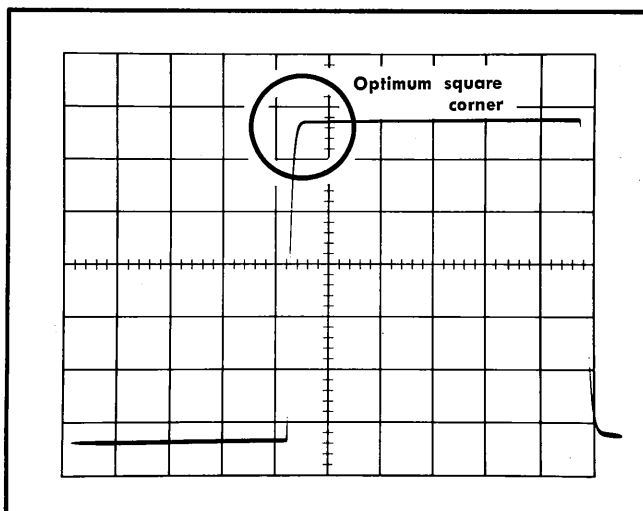

Fig. 5-18. High frequency response waveform for step 20. Sweep rate - $1 \mu\text{s}/\text{div}$; vertical sensitivity - $.02 \text{ v}/\text{div}$.
e. Adjust the 2B67 (TRIGGERING) LEVEL control as necessary to obtain a display similar to that shown in Fig. 5-18.
g. (Calibration Procedure only.) ADJUST—High frequency response. Using the hexagonal alignment rod (item 31), adjust L464 and L474 in equal increments as necessary to obtain optimum squareness at the upper left corner of the square wave. Use Fig. 5-18 as a reference. Note that two slugs are contained in each core. Do not tighten them against each other so hard that they bind or break.